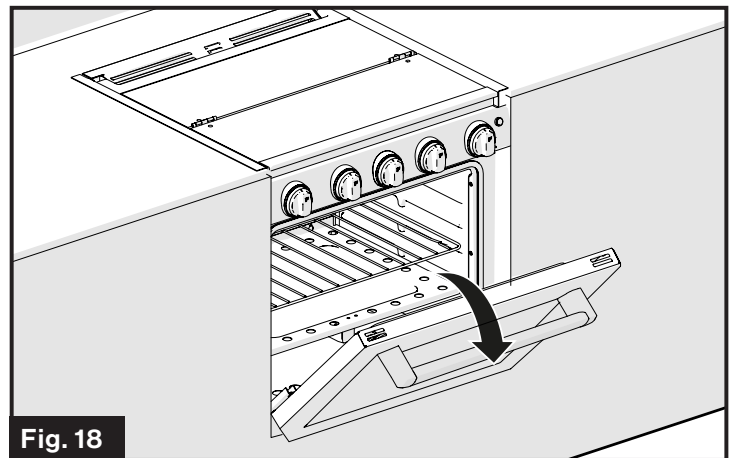

Fig. 18
1. Pull the oven handle to open the door. If you smell gas STOP! Refer to the installation section and follow the instructions as listed for the appliance. (Fig. 18)